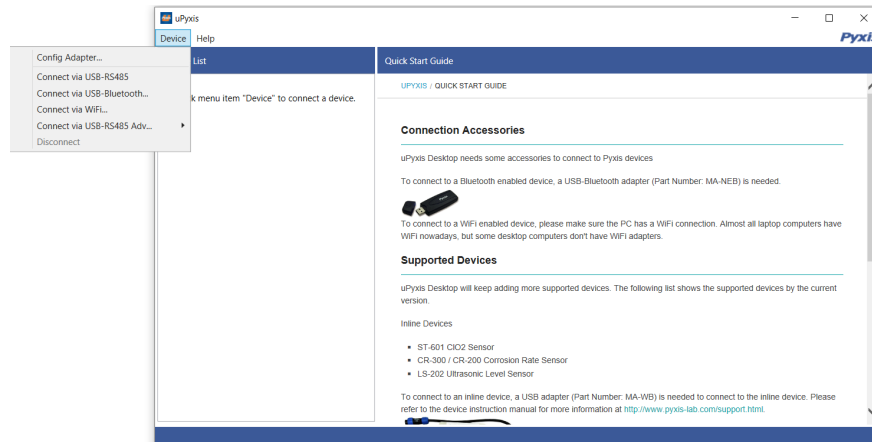

Figure 13.
3. On **uPyxis®** Desktop App, click Device → **Connect via USB-Bluetooth** or **Connect via USB-RS485** (Figure 13).
4. If the connection is successful, the ST-730 Series and its Serial Number (SN) will be displayed in the left pane of the **uPyxis®** window.